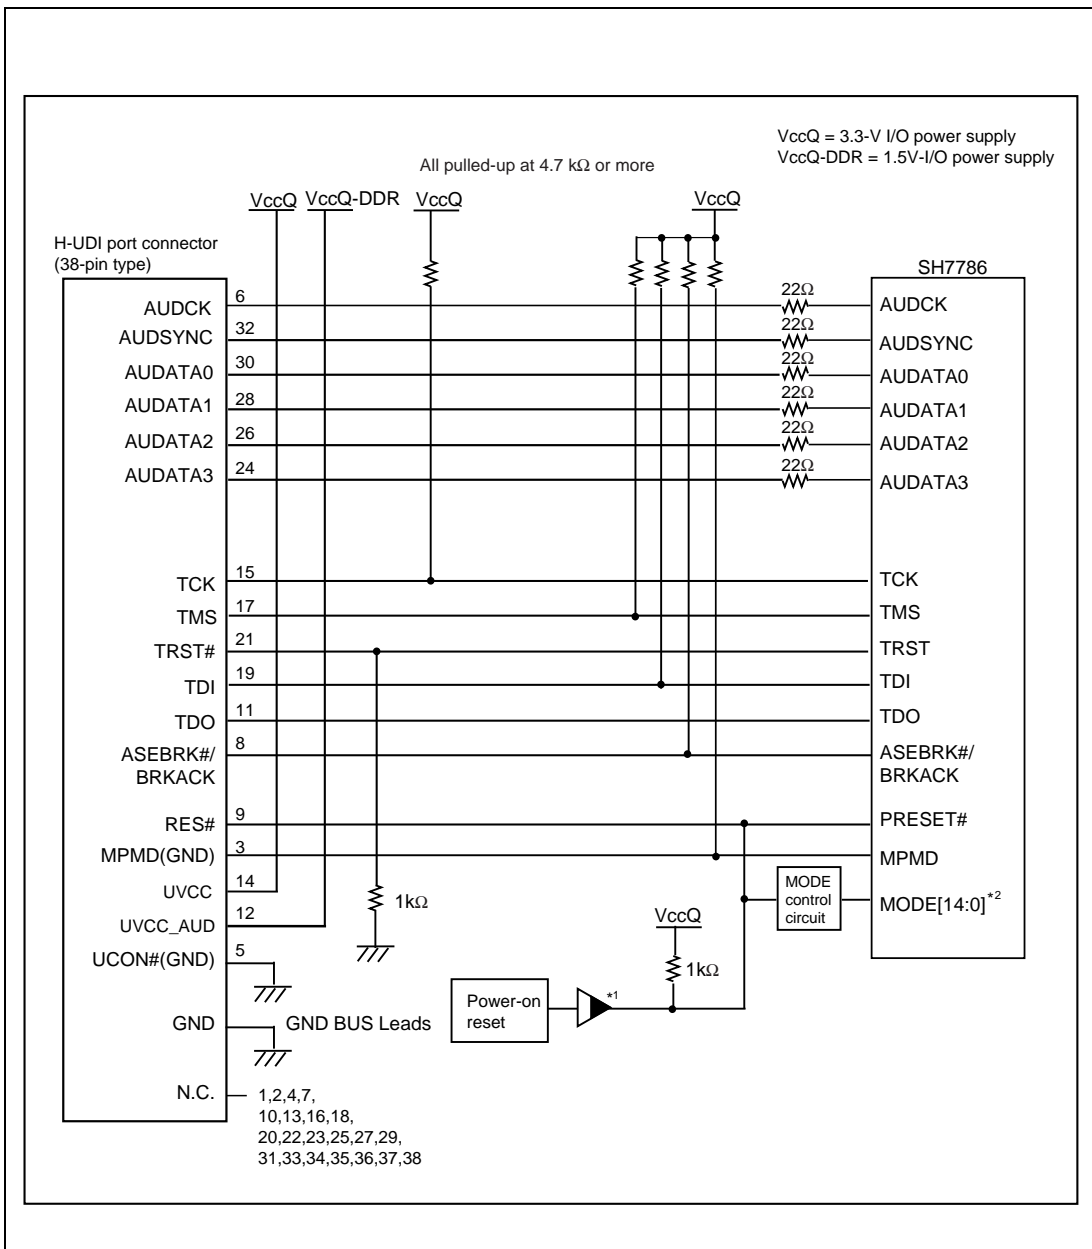

Figure 1.5 Recommended Circuit for Connection between the H-UDI Port Connector and MPU when the Emulator is in Use (38-Pin Type)
Figure 1.5 shows a recommended circuit for connection between the H-UDI and AUD port connectors (38 pins) and the MPU when the emulator is in use.
- (1) When the emulator is used: $MPMD = 0$
- (2) When the emulator is not used: $MPMD = 1$Figure 1.5 shows an example of circuits that allow the MPMD pin to be GND (0) whenever the emulator is connected by using the user system interface cable. When the MPMD pin is changed by switches, etc., ground pin 3. Do not connect this pin to the MPMD pin.
7. The resistance values shown in figure 1.5 are for reference.